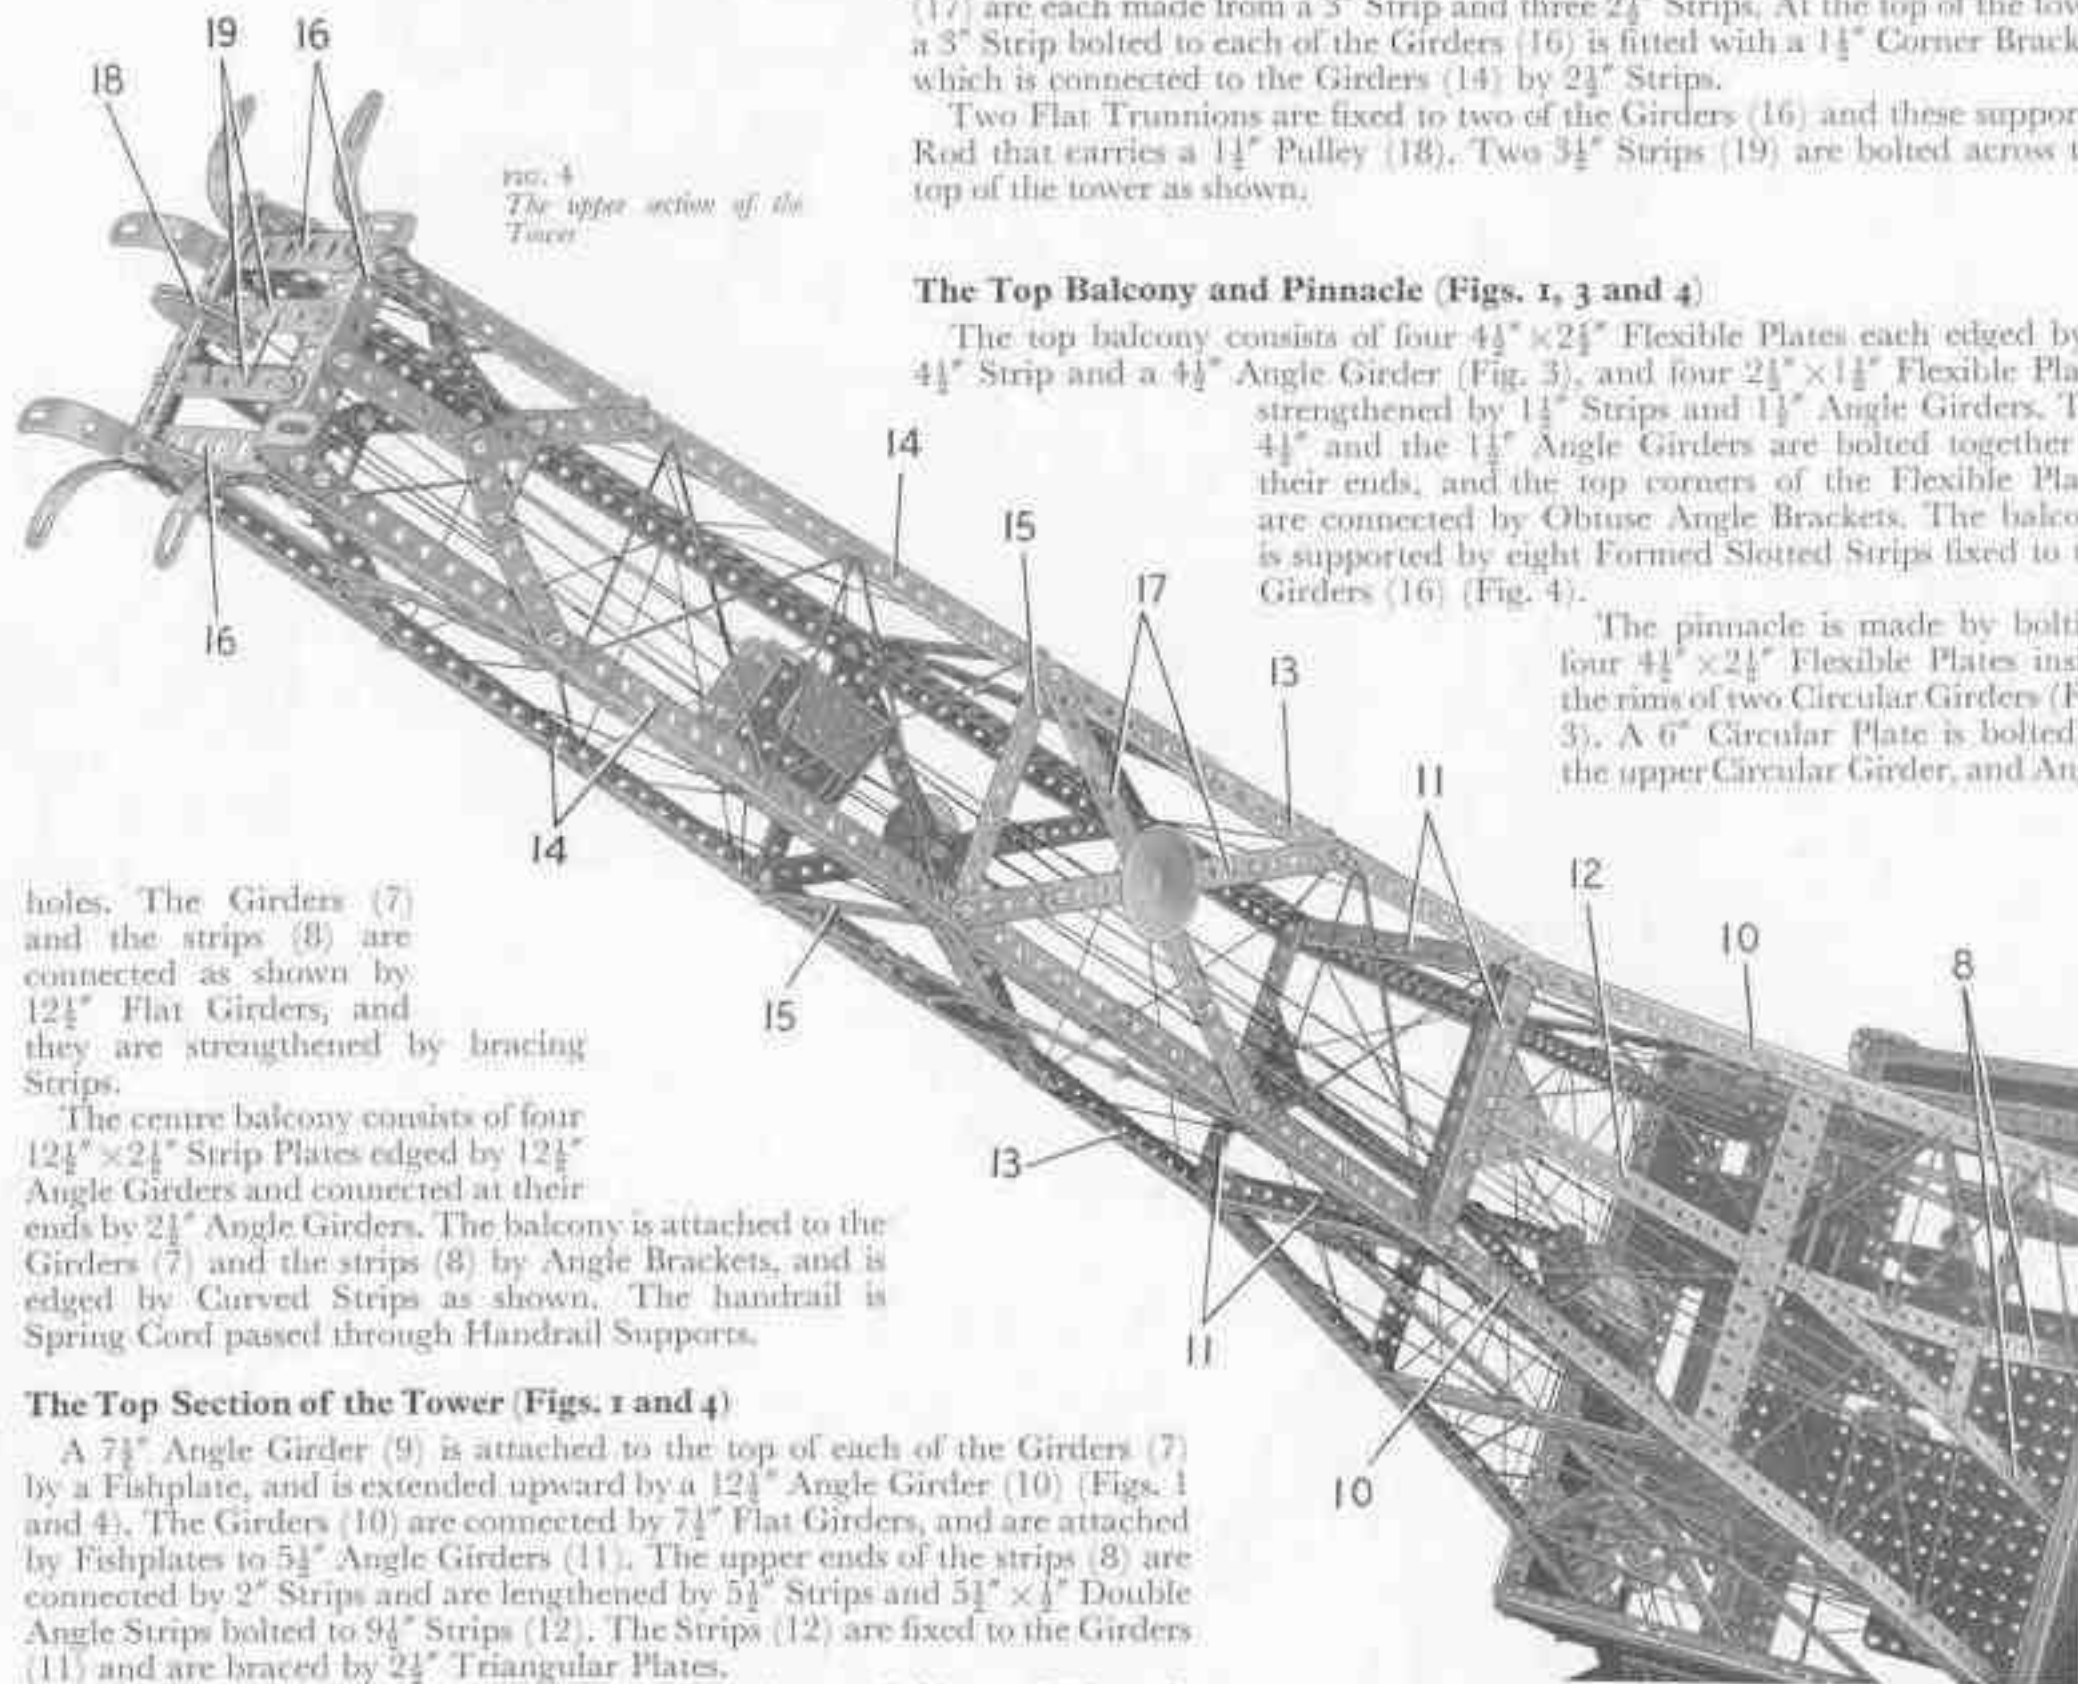
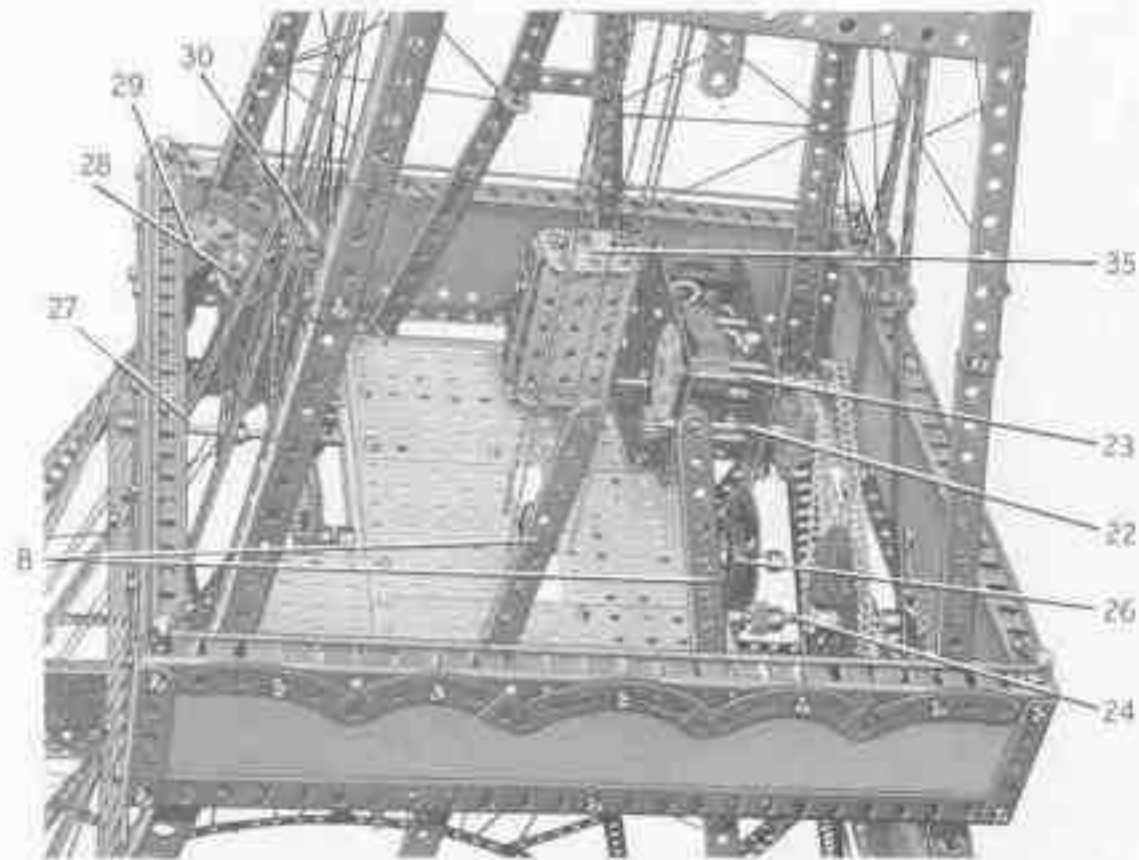
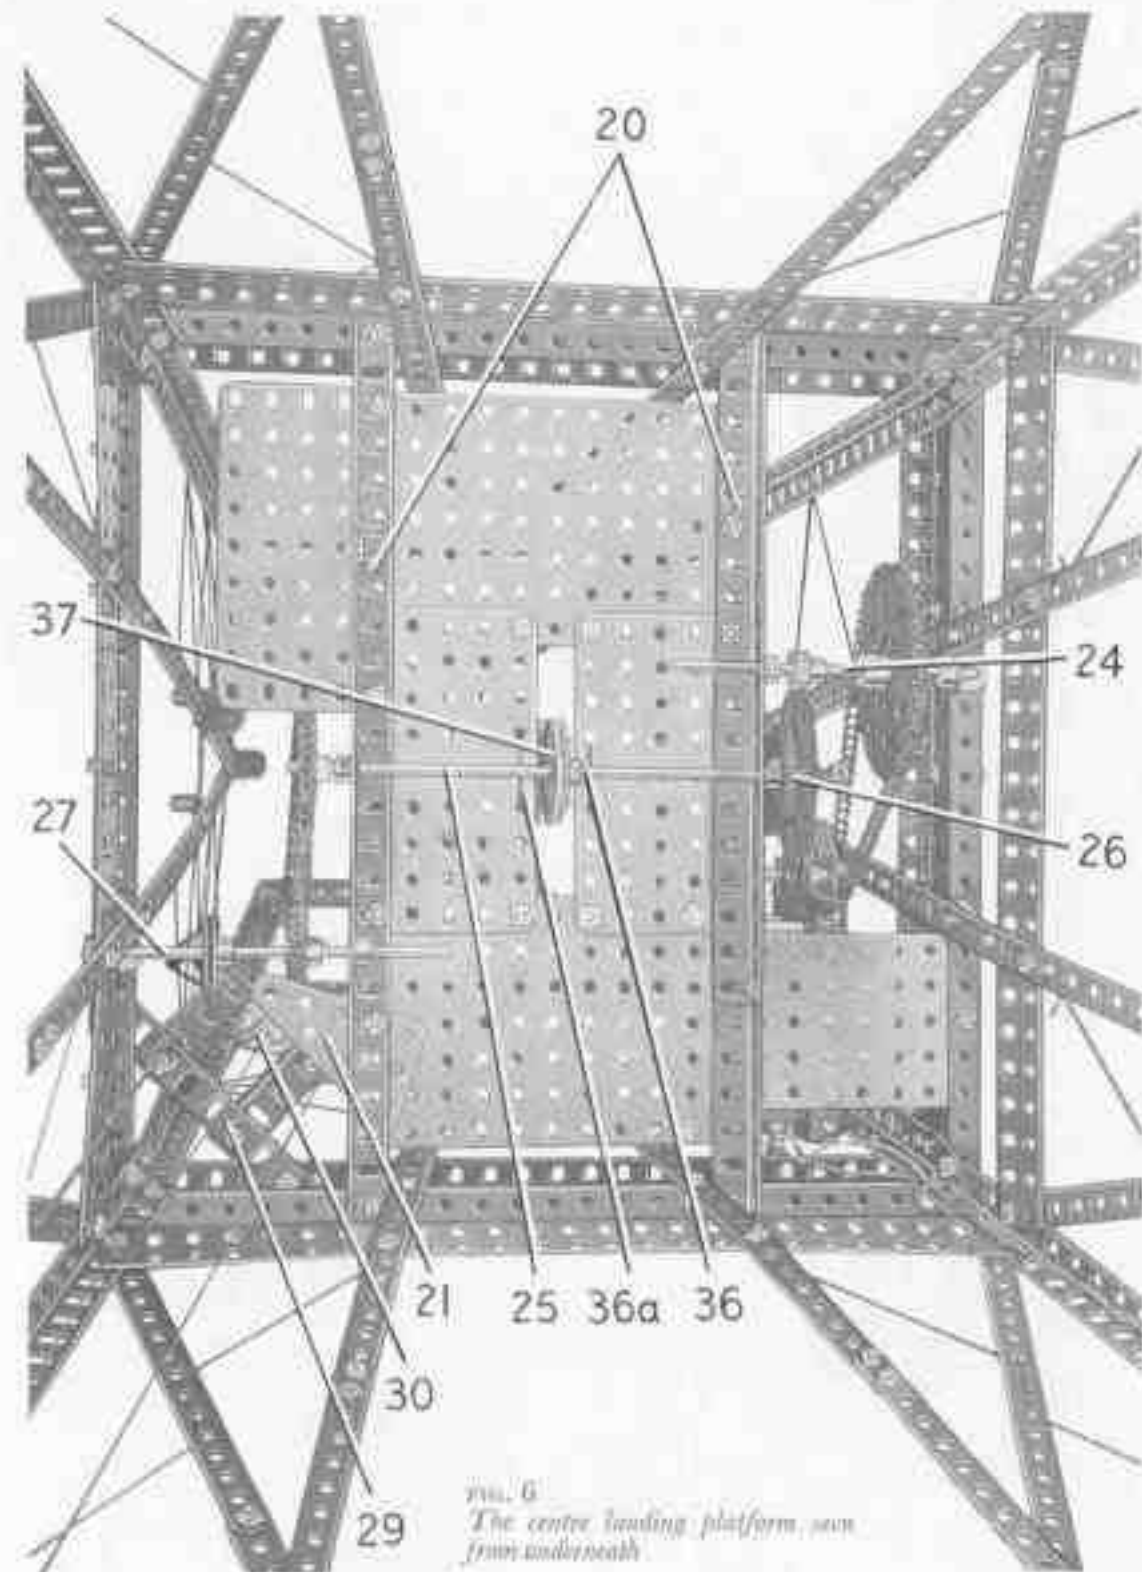

FIG. 4
FIG. 5
FIG. 6
The top balcony consists of four $4\frac{1}{2}$ " \times $2\frac{1}{2}$ " Flexible Plates each edged by a $4\frac{1}{2}$ " Strip and a $4\frac{1}{2}$ " Angle Girder (Fig. 3), and four $2\frac{1}{2}$ " \times $1\frac{1}{2}$ " Flexible Plates strengthened by $1\frac{1}{2}$ " Strips and $1\frac{1}{2}$ " Angle Girders. The $4\frac{1}{2}$ " and the $1\frac{1}{2}$ " Angle Girders are bolted together at their ends, and the top corners of the Flexible Plates are connected by Obtuse Angle Brackets. The balcony is supported by eight Formed Slotted Strips fixed to the Girders (16) (Fig. 4).
The Centre Landing Platform and Operating Mechanism (Figs. 5, 6 and 7)
Two built-up girders (20) (Fig. 6) are bolted underneath the centre balcony and to them are bolted Flat Plates as shown in Figs. 5 and 6. These Plates comprise two 5½" × 3½" Flat Plates and four 4½" × 2½" Flat Plates. A 2½" × 1½" Triangular Flexible Plate (21) is arranged as shown at one corner of the platform.
An E15R Electric Motor is bolted to the platform and a ¾" diameter Pinion on its armature shaft drives a 60-tooth Gear on a 2½" Rod (22). (Fig. 5). A ¾" Pinion on this Rod engages a 57-tooth Gear on a 3½" Rod (23), which carries also a ¾" Sprocket. This Sprocket is connected by Chain to a 3" Sprocket on a Rod (24) mounted in one of the girders (20) and in an Angle Bracket bolted underneath the balcony. A ¾" Pinion on Rod (24) drives a 2½" Gear that is loosely mounted on a 6½" Rod (25). A Compression Spring is placed on this Rod between the Gear and a Collar, and it forces the Gear against a Motor Tyre (26) on a 1" Pulley fixed on the Rod. This arrangement forms a
A 1½" Sprocket on Rod (23) is connected by Chain to a ¾" Sprocket on a 5" Rod (27) (Fig. 6). This Rod is mounted in one of the girders (20) and in an Angle Bracket bolted underneath the balcony. A Driving Band is passed round
a 1" Pulley on Rod (27) and round a similar Pulley on a 2 1/4" Rod (28) (Fig. 5). Rod (28) is supported in two 2" Angle Girders bolted to a built-up girder (29). The girder (29) consists of a 3" Angle Girder and a 1 1/4" Angle Girder bolted together. A 1" Pulley (30) is fixed on Rod (28).
The two lifts that operate between the centre platform and the top of the tower are each made by bolting two 2 1/4" x 1/2" Double Angle Strips between the flanges of a 2 1/4" x 1 1/4" Flanged Plate. A Girder Bracket is fixed to one Double Angle Strip, and a 1 1/4" Flat Girder (35) (Fig. 5) is bolted to each flange of the Flanged Plate. The guide Cord for the lifts is tied to one of the Strips (19) (Fig. 4), is passed through the Flat Girders (35) of one lift, and through the second stage platform as indicated at (36) (Fig. 6). The Cord is passed through the Flat Girders (35) of the second lift and is taken through holes in the Strips (19) before it is again passed through the Flat Girders of the second lift. The Cord is then taken through the centre platform at (36a) (Fig. 6) and is tied to one of the Strips (19).
The operating Cord for these lifts is tied at one end to a Tension Spring placed inside one of the lifts. The Cord is passed through the top 1 1/4" Flat Girder of this lift, round the Pulley (18) and through the top 1 1/4" Flat Girder of the second lift, where it is tied to another Tension Spring. A length of Cord fastened to the lower end of this Spring is passed through the bottom 1 1/4" Flat Girder, is taken round a 1 1/4" Pulley (37) (Fig. 6) on Rod (25), through the bottom of the second lift and is tied to the lower end of the Spring in this lift.